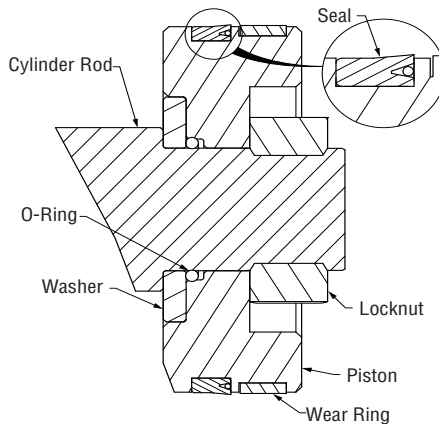

Figure 5-42, Piston Seal
1. Spray the piston, gland cap and seals with WD40 or other similar product to ease slipping of the seals in place. (Figure 5-42)
2. Note the direction of the seal on the piston. Improper installation will result in poor performance. The cupped side or O-ring side of the seal should be facing the gland cap. (Figure 5-42)